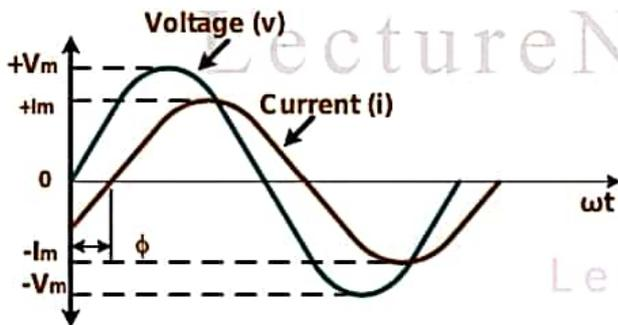

Figure 2.11 Wave Forms of Voltage & Current
- So, the difference between the two sinusoidal quantities representing in waveform shown in Fig. 2.11 & phasors representing the two sinusoidal quantities is angle ϕ and the resulting phasor diagram shown in Fig. 2.12.